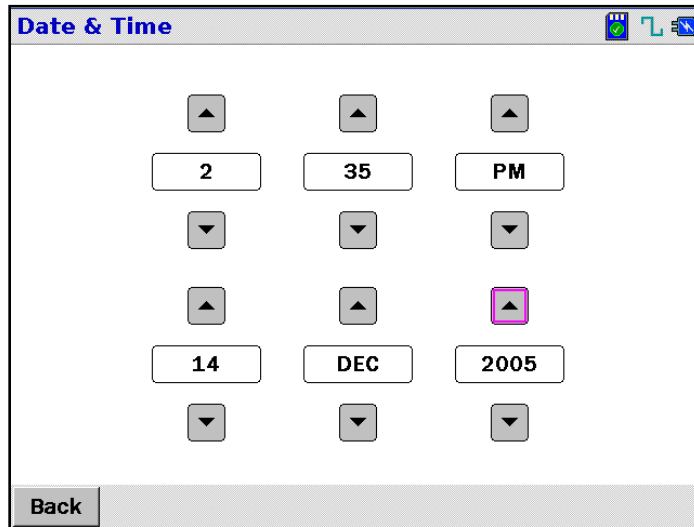

FIGURE 30 - DATE AND TIME SCREEN
2. Touch the ▼ or ▲ icons adjacent to the or below the field of interest (e.g. Dec. in Figure 30) to scroll to the desired value. The range for the *Year* field is 2005 to 2025.